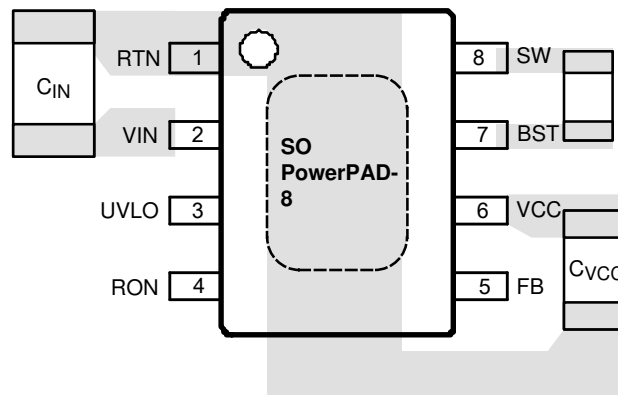

图 10-1. Placement of Bypass Capacitors
1.  $C_{IN}$ : The loop consisting of input capacitor ( $C_{IN}$ ),  $V_{IN}$  pin, and RTN pin carries switching currents. Therefore, the input capacitor should be placed close to the IC, directly across  $V_{IN}$  and RTN pins and the connections to these two pins should be direct to minimize the loop area. In general it is not possible to accommodate all of input capacitance near the IC. A good practice is to use a 0.1-  $\mu$ F or 0.47-  $\mu$ F capacitor directly across the  $V_{IN}$  and RTN pins close to the IC, and the remaining bulk capacitor as close as possible (see 图 10-1).
2.  $C_{VCC}$  and  $C_{BST}$ : The  $V_{CC}$  and bootstrap (BST) bypass capacitors supply switching currents to the high and low side gate drivers. These two capacitors should also be placed as close to the IC as possible, and the connecting trace length and loop area should be minimized (see 图 10-1).